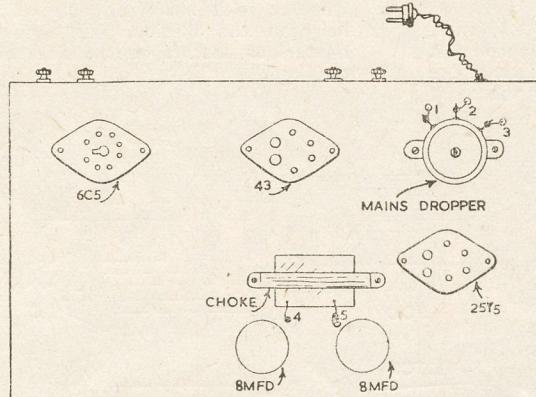

Fig. 1—Layouts of the parts on the baseboard
**The Mains Dropper** is a .3 amp, 800 ohm, wire-wound resistor intended to reduce the mains voltage to the 50 to 60 volts heater voltage required by the valves. The leads going to it are numbered in Figs. 1, 2 and 3.
Fig. 1 shows where the valves are inserted, and equivalent types to those shown can be used. For example, numerous manufacturers produce rectifiers equivalent to the 25Y5 shown, and any such equivalents can be used. The numbers shown are those of the valves most generally available.